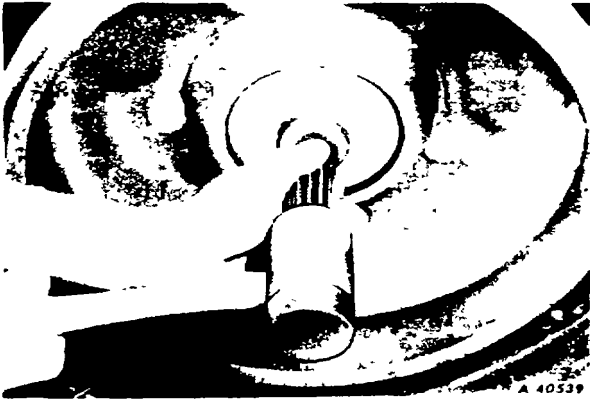

Fig. 21
3. Install hub seal using SE-1905 Installer Set to prevent cocking seal (Fig. 21). Select the size disc which will apply force to outer edge of hub seal and prevent seal from becoming distorted or damaged.